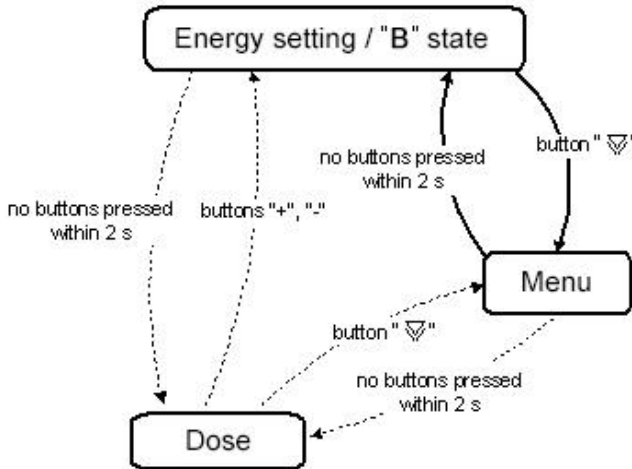

Fig.18
6.1.2 A chart of the device’s basic states is illustrated in the Fig.18 (dotted lines mean that the **Dose** is on).